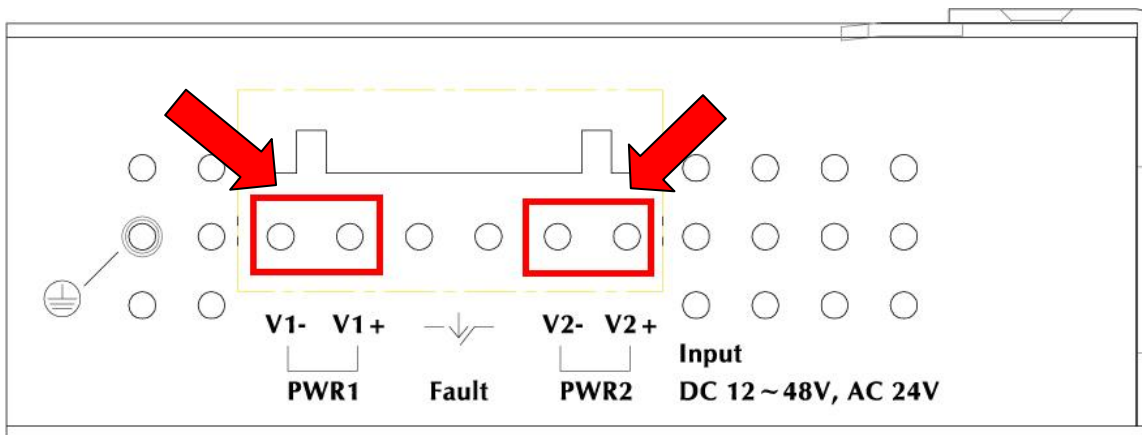

Figure 2-5 PWR1 & PWR2 of Industrial Serial Converter.
1. Insert positive / negative DC power wires into the contacts 1 and 2 for POWER 1, or 5 and 6 for POWER 2. Figure 2-5 shows PWR1 and PWR2 of the industrial serial converter.